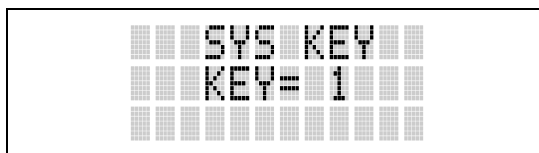

Figure 8-9: System Encryption Key Display
3. Use the **[▲]** or **[▼]** button to toggle between displaying the system key (Figure 8-9) or the group/channel key (Figure 8-10).